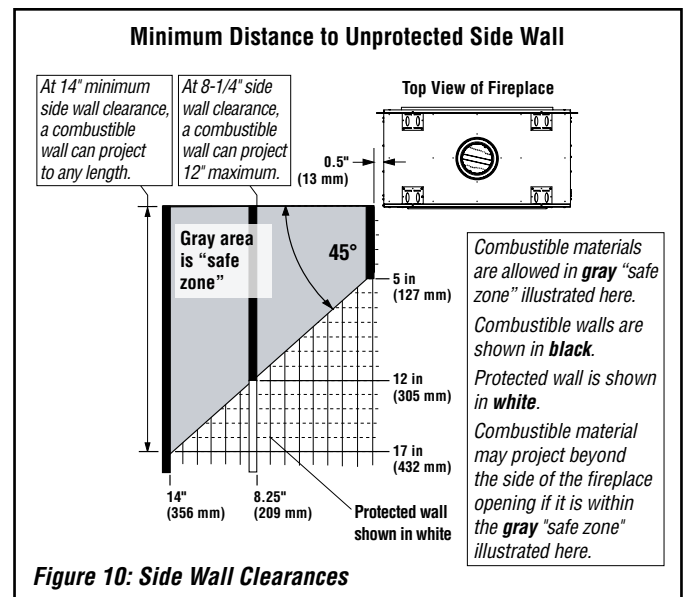

Figure 10: Side Wall Clearances
- Combustible material may project beyond the sides of the fireplace opening, as long as it is within the shaded area shown in **Figure 10 on Page 9**.